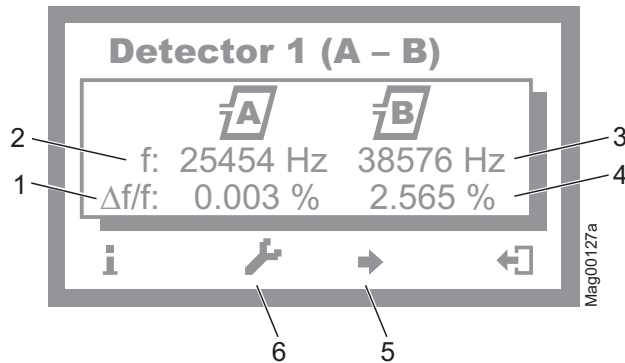

Fig. 22: Example "View – Menu Detector 1 (A-B)"
3. Press the left control button repeatedly, until the menu "Detector 1 (A-B)" is displayed. → See page 78, Fig. 22.